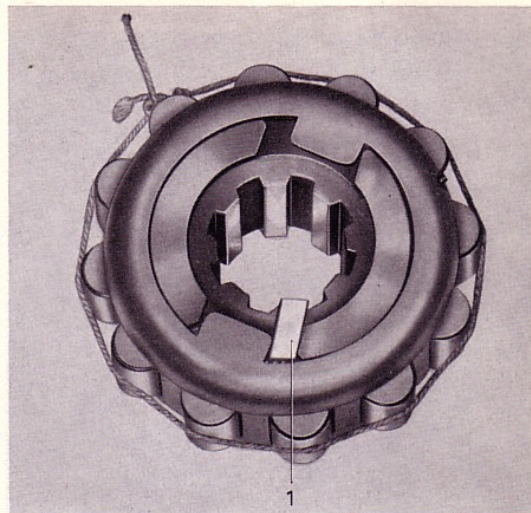

Fig. 28. Assembling the uni-directional clutch, II
- clockwise as far as it will go and lock it in this position with a key as shown in Fig. 28. Place in the rollers. Tie a piece of string or rubber band round the rollers.